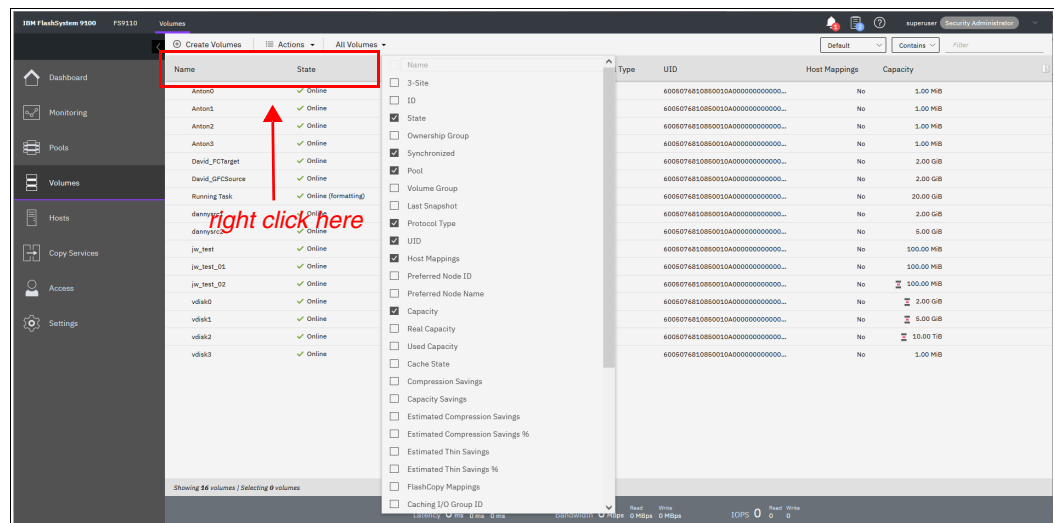

Figure 4-26 Adding or removing details in a table
1. Right-click any column headers of the table or select the icon in the upper left of the table header. A list of all of the available columns displays, as shown in Figure 4-26.